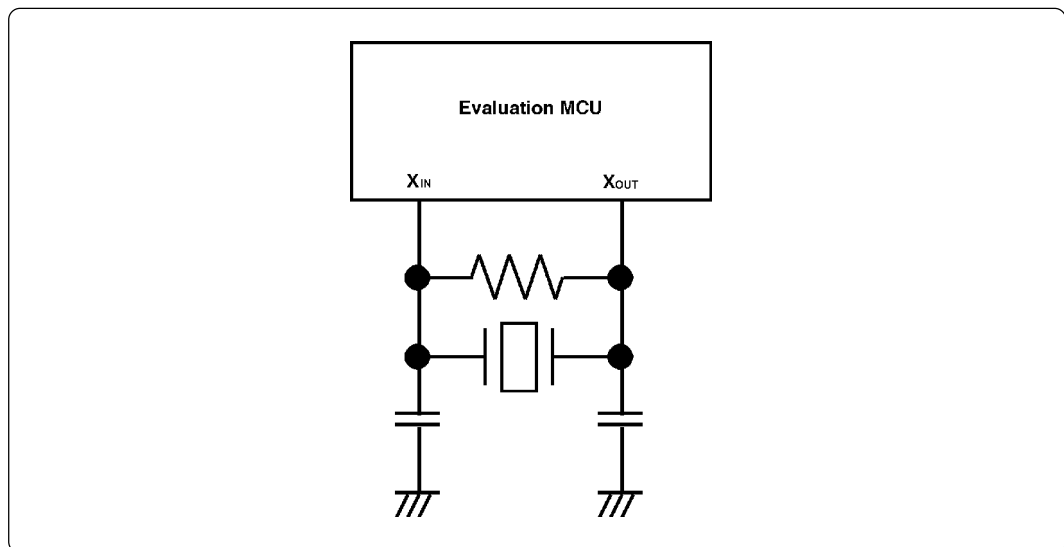

Figure 3.5 Circuit in which oscillation does not occur (same for  $X_{CIN}$ - $X_{COUT}$ )
- Make note of the fact that in the oscillator circuit shown in Figure 3.5 where a resonator is connected between the  $X_{IN}$  and  $X_{OUT}$  pins, oscillation does not occur because a flexible cable, buffer IC and other devices are used between the evaluation MCU and the target system. It is same for sub-clock oscillator circuits ( $X_{CIN}$  and  $X_{COUT}$ ).